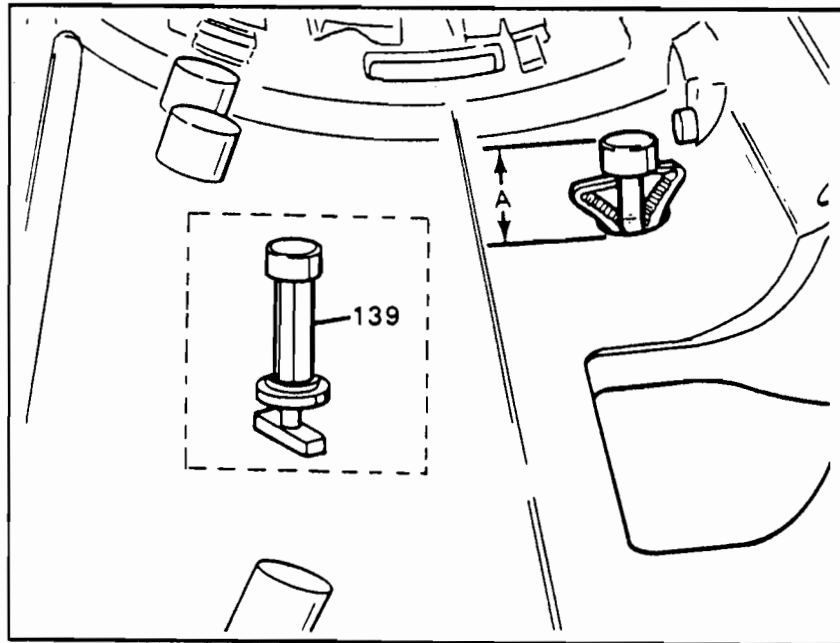

Figure 4
5. The 1-2 band stop height can be checked during a overhaul. First ensure that the stop is not loose in the case. With the transaxle dis-assembled, the 1-2 band stop should protrude 9/16" through the case as shown in Figure 4.